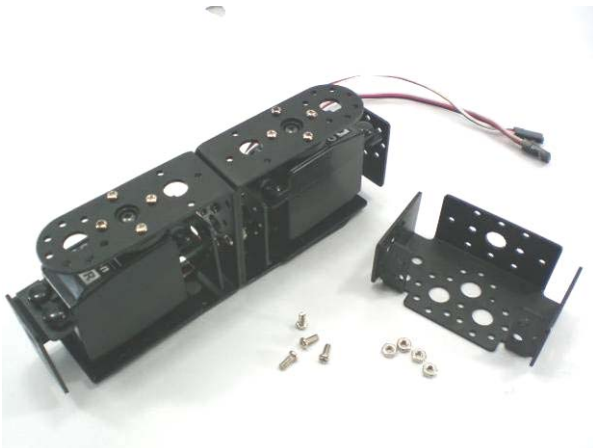

Figure 49
11. Prepare the components as shown in figure 49.